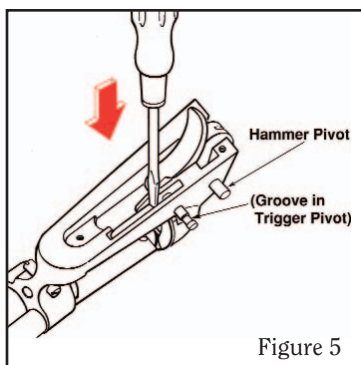

Figure 5
6. Remove the trigger pivot (pin) as follows: using a screwdriver as shown in Figure 5, below, depress the gate detent spring so that the end of the spring which rests in one groove of the trigger pivot is free of the groove. Then, use a drift and hammer to push the pivot completely out of the frame.
1. Assemble pawl to hammer and transfer bar to trigger as shown in Figure 5, p. 21. Partially insert hammer/pawl assembly in its recess in the frame. Insert trigger/transfer bar assembly in its slot in the frame. Then simultaneously complete insertion of the two assemblies into the frame.
2. (Refer to Figure 5, p. 21.) Align hammer in frame and insert hammer pivot with the grooved end of the pivot opposite the gate side of the frame. The long screw, XR01901, when also inserted opposite the gate side, will intersect the groove and lock the pivot in place. (See step number 11, p. 23.)
4. (Refer to Figure 5, p. 21.) Depress the upper arm of the gate detent spring with tip of screwdriver blade and install trigger pivot. Pivot should be inserted from the gate side of the frame. The non-grooved end of the pivot should be inserted first. (It may be necessary to manipulate the trigger, the gate detent spring, and the cylinder latch to align them to receive the trigger pivot.)